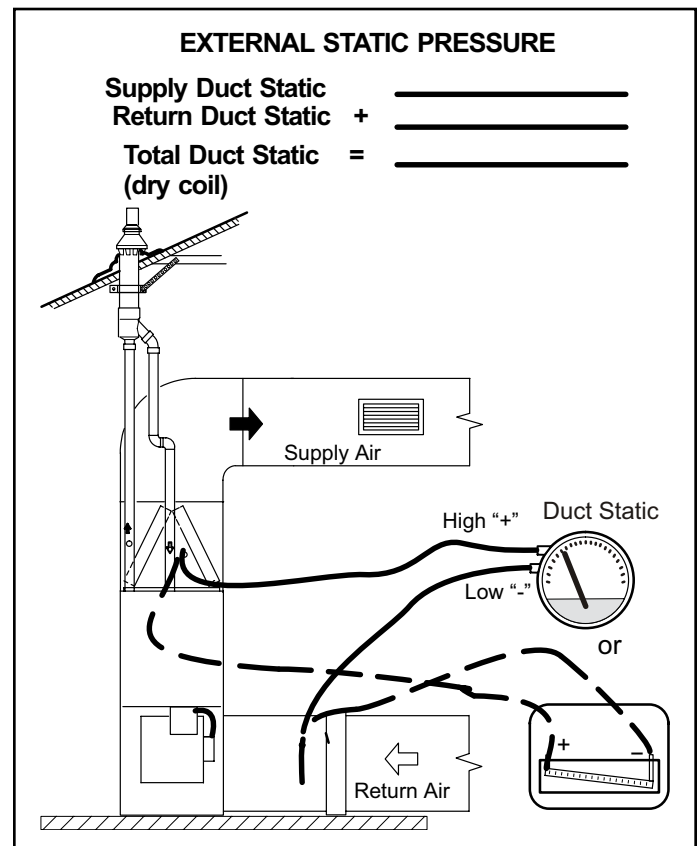

Figure 54.
1. Tap locations shown in Figure 54.